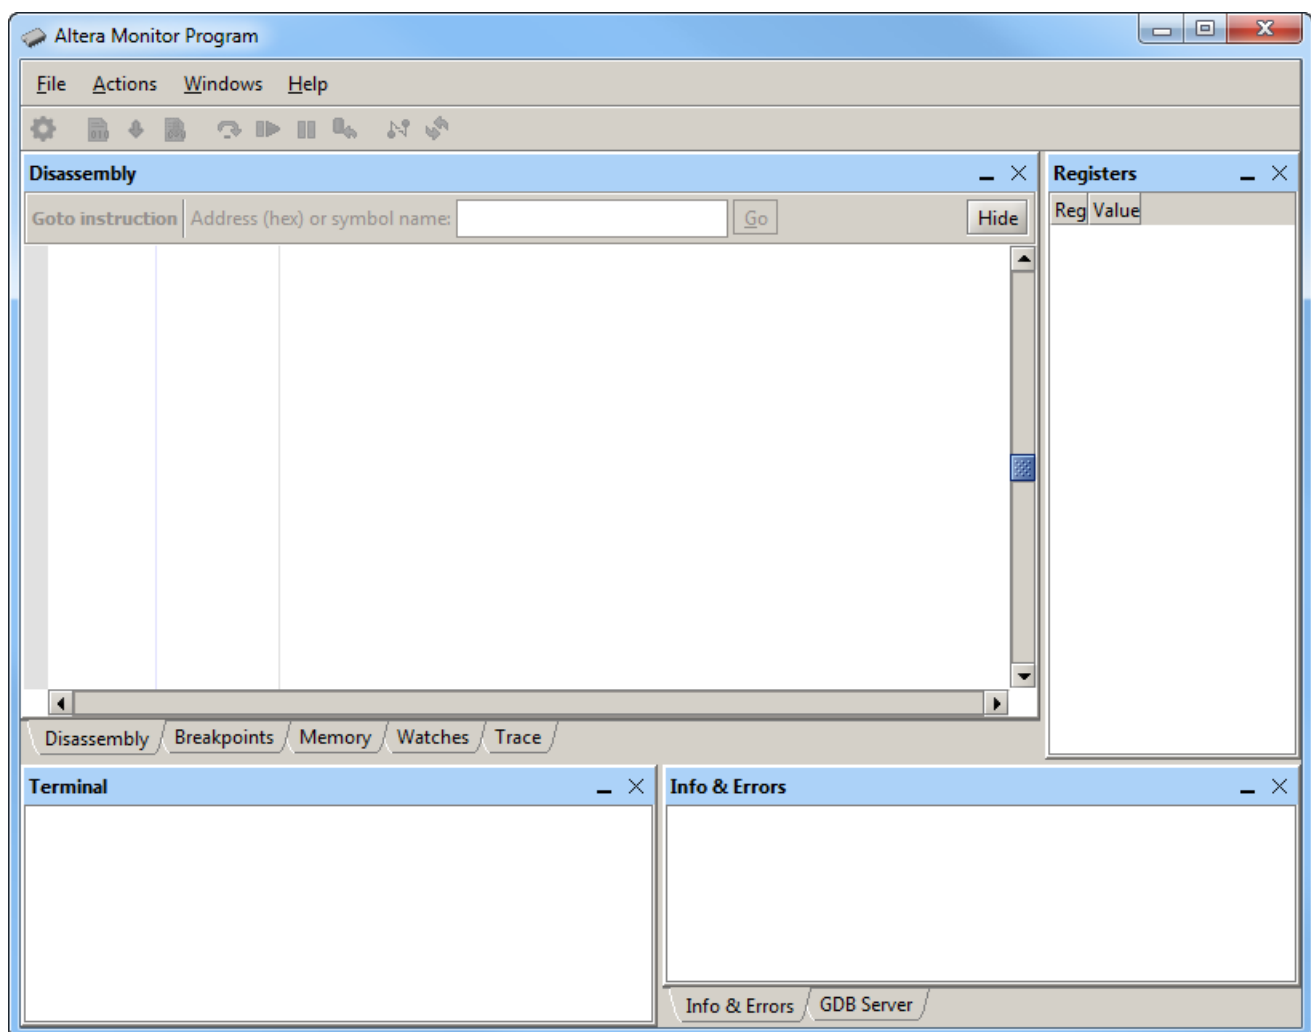

Figure 25. The Intel® FPGA Monitor Program main window.
Open the Intel® FPGA Monitor Program, which leads to the window in Figure 25.
9. Now, in the monitor window in Figure 25 select Actions > Compile & Load to assemble and download your program.